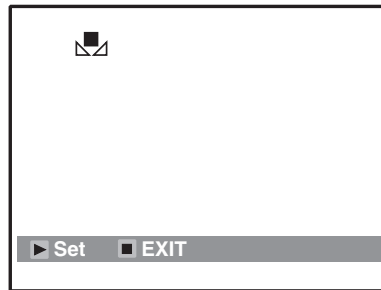

Fig. 6-4-4 White balance set screen
- 1) Press the MENU button on DVD video camera/recorder, and **◀◀ / ▶▶ / ◀▶ / ▶▶** buttons to specify "White Bal.: Set" to display the white balance screen. (See Fig. 6-4-4)